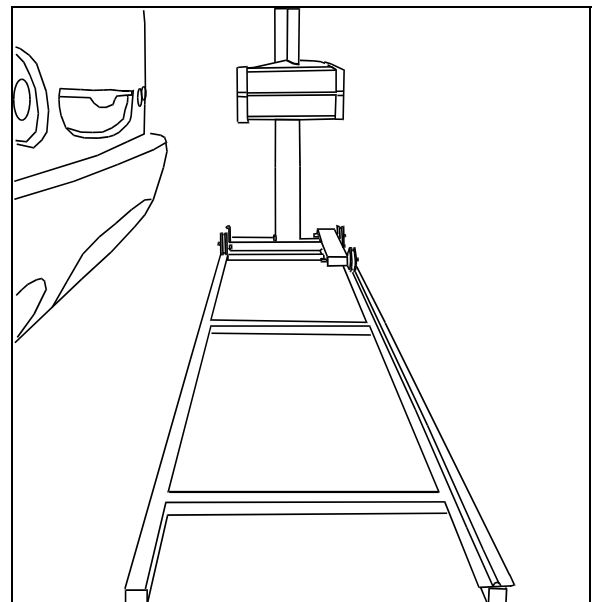

FIGURE 30: INSTALLATION OF HOOPY 100 ALIGNER 06496
5. Install “Hoopy 100” Aligner onto support rail (Fig. 30).
3. Install “Hoopy 100” Aligner onto support rail (Fig. 30). Turn aligner ON.